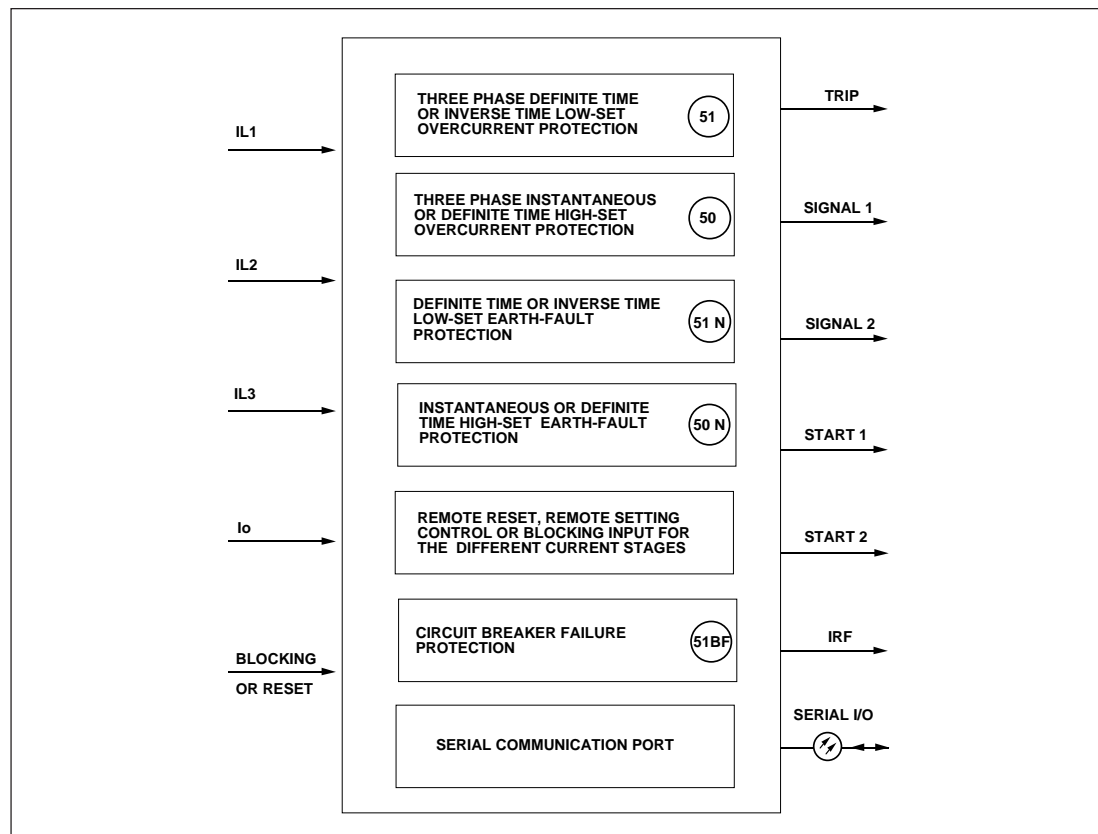

Fig. 1. Protection functions of the combined overcurrent and earth-fault relay type SPAJ 140 C.
E) Shortly after the internal self-supervision system has detected a permanent relay fault the red IRF indicator is switched on and the output relay of the self-supervision system operates. Further, in most fault situations an autodiagnostic fault code is shown in the display. The fault code is composed of a red figure 1 and a green code number which indicates fault type. The fault code persists until the STEP/RESET push-button is pressed. When a fault code appears on the display, the code number should be recorded for statistical and maintenance purposes.